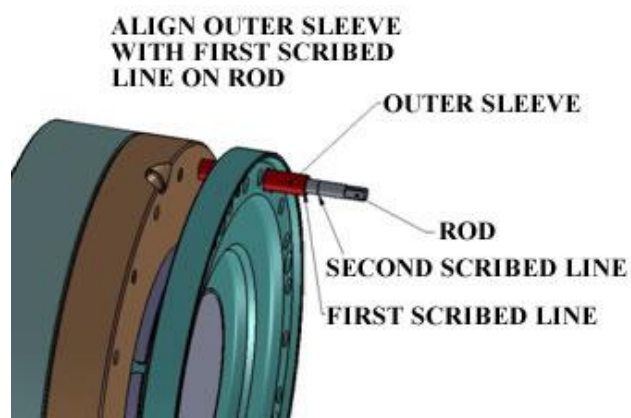

Figure 5a - Setting Initial Grip Position
2.4.11 The proper setting of the HTC is accomplished by the separation or gap between the two halves of the clamp (see Figure 1). A special Gap Tool (Riverhawk PN 7500485) has been provided to facilitate this setting. Be sure you maintain the First Grip Position from the previous step until the tool is in place. Thread the gap tool into one of the retraction screw holes until the outer sleeve aligns with the first scribe line on the rod (see Figure 5a). The tool is spring loaded so you will need to push and turn in order to start the thread.